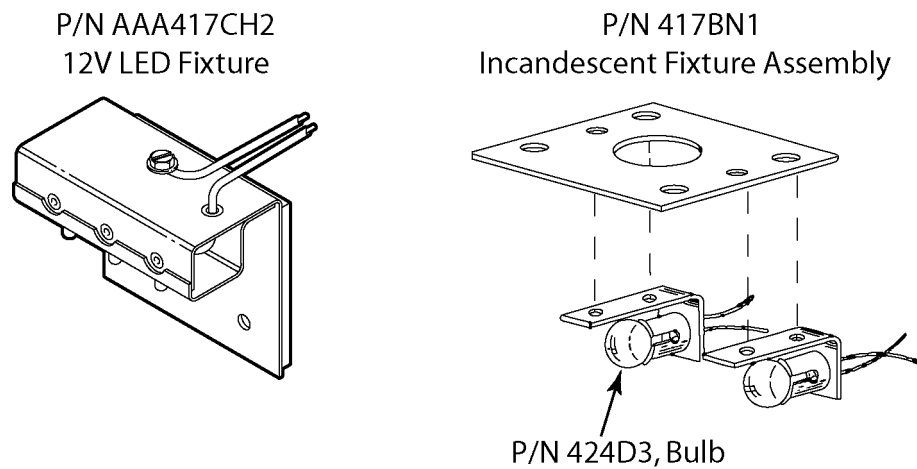

Figure 2: Emergency Light Fixtures
The emergency light power pack (ELPP) is designed to automatically supply power to an in-car emergency light fixture, such as the LED and incandescent fixtures shown in Figure 2, in the event of an interruption of normal building power. The unit consists of a battery, charging circuit, and logic.
3. Ensure that the incoming AC power is off and that the lamp switch and the test buttons are in the OFF position. Remove cover from the emergency light power pack assembly. Turn OFF (down) the battery switch located on the battery charger printed circuit board inside the emergency light power pack. Connect the battery terminals (if not pre-connected) and wire the emergency light power pack in accordance with Figure 2 and the system wiring diagram for the elevator system.
7. Reconnect the terminals to the battery in accordance with Figure 2 and the system wiring diagram.